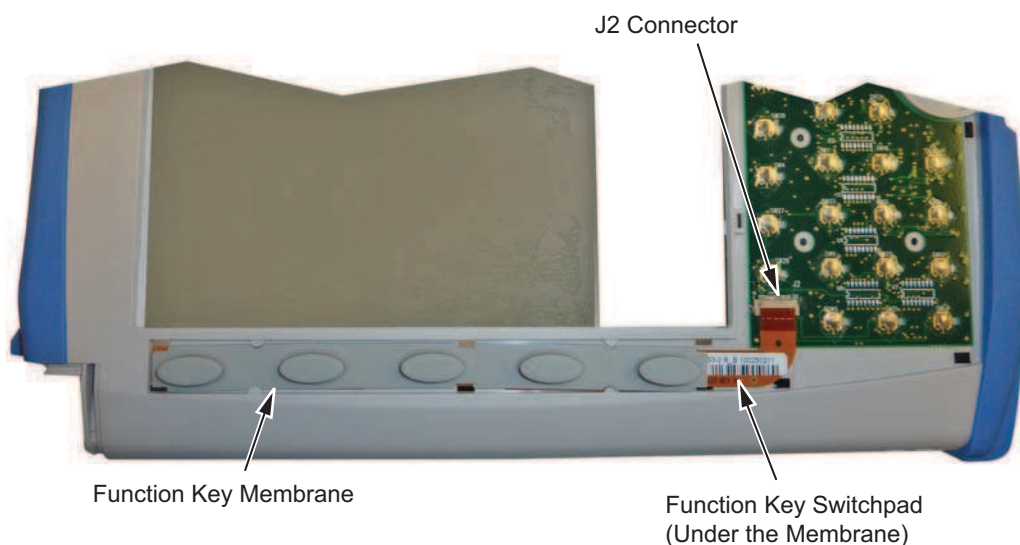

Figure 5-12. Function Key Membrane and Switchpad
4. Remove the function key membrane by gently pulling the membrane up and away from the front panel (Figure 5-12).
5. Disconnect the function key flexible switchpad from J2 of the keypad PCB by carefully lifting the locking tab on connector J2 to release the flexible switchpad (Figure 5-12).